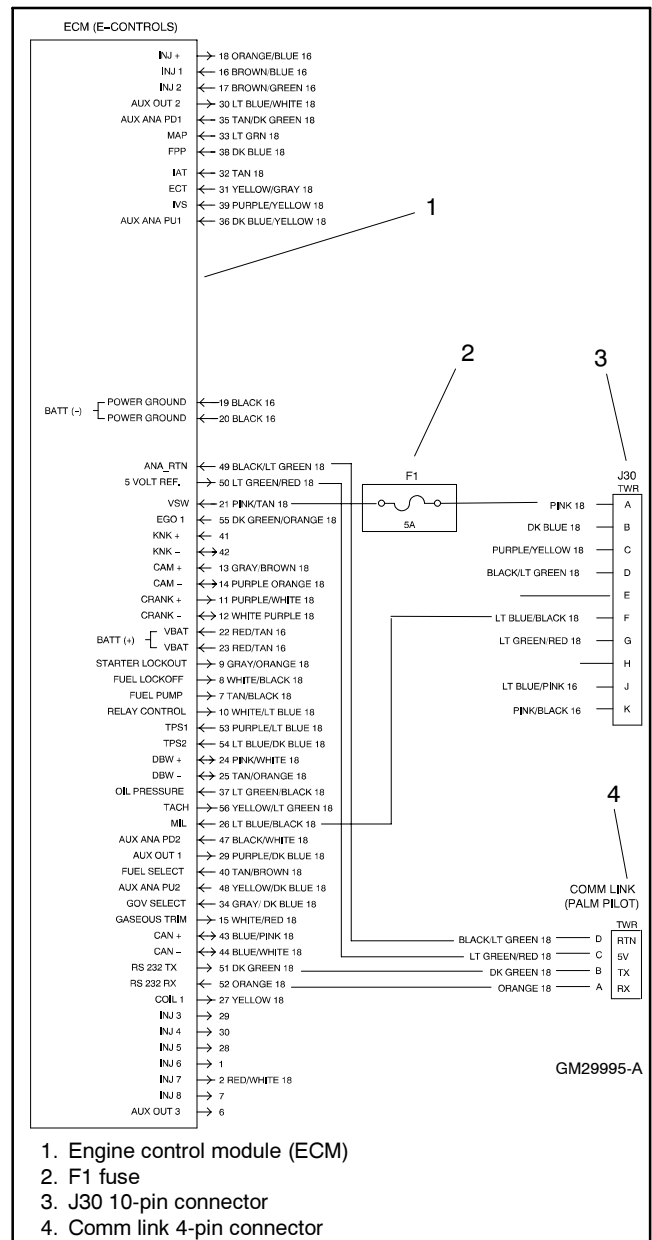

Figure 4 F1 Fuse
3.2 Remove the F1 (5 amp) fuse located between J30 connector (pink wire) and the engine ECM wire 21 (pink/tan wire) for at least 15 seconds. See Figure 4.